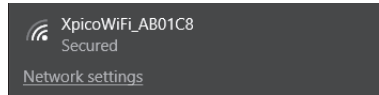

Figure 15: XpicoWiFi Connection
3. Select XPicoWiFi_XXXXXX to connect. See Figure 15.